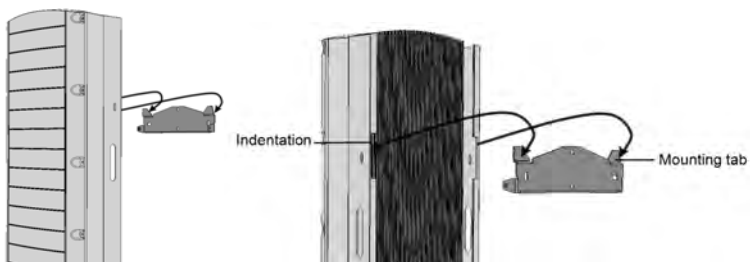

Figure 9: Hanging the inverter on the bracket
- Ensure that the flat edge of the bracket is at the bottom, as in *Figure 9*.
5. Hang the inverter on the bracket (see *Figure 9*): Lift the inverter from the sides, or hold it at the top and bottom of the inverter to lift the unit into place.
7. Insert the two supplied screws through the outer heat sink fins on both sides of the inverter and into the bracket (see *Figure 9*). Tighten the screws with a torque of 4.0 N\*m / 2.9 lb.\*ft.